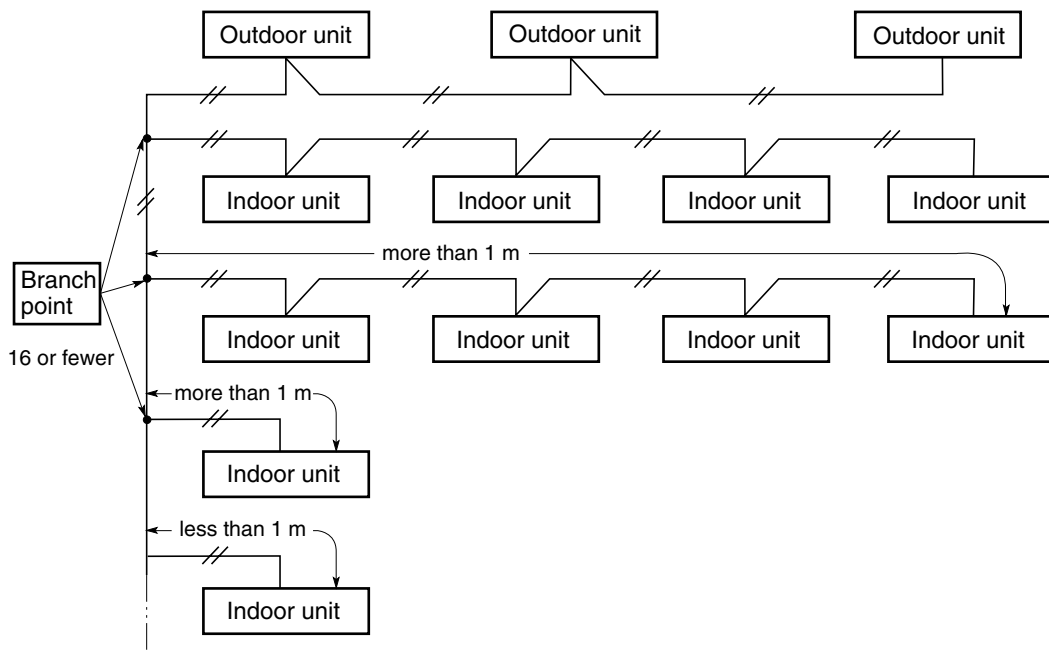

Fig. 5-3
(4) If branching the inter-unit control wiring, the number of branch points should be 16 or fewer. (Branches less than 1 m are not included in the total branch number.) (Fig. 5-3)